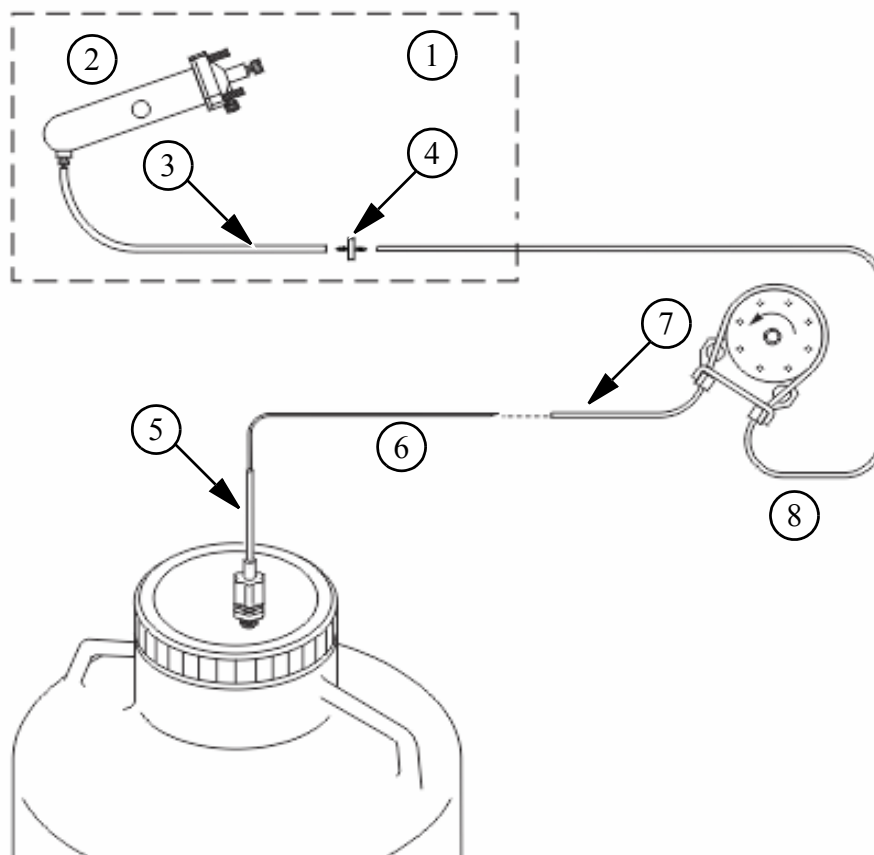

Figure 5-36 Tubing connections to the drain bottle.
Make sure you install the tubing on the pump so that the waste liquid is pumped *out* of the spray chamber. See Figure 5-36. If the tubing is installed in the wrong direction, the spray chamber will flood.
5. Insert the Teflon tubing into the other side of the pump tubing. Lead this tubing to the drain bottle. Refer to Figure 5-36.